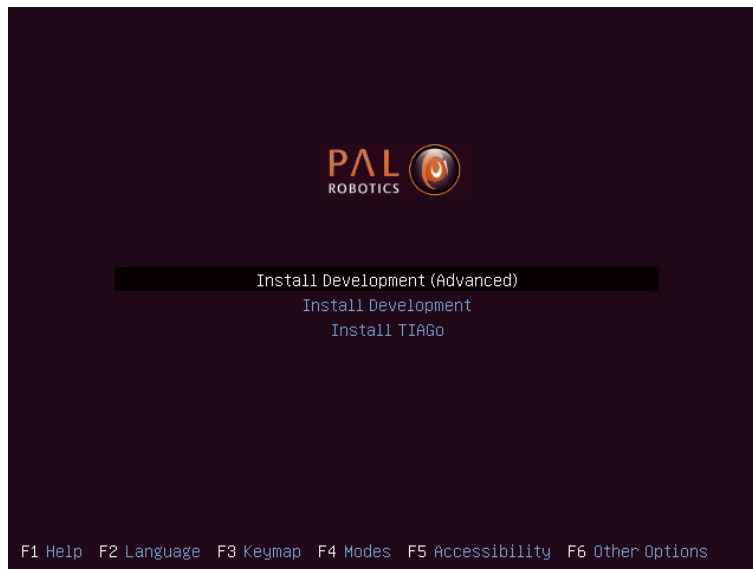

Figure 34: System installation menu
- Once the computer boots from the USB, the menu shown in Figure 34 will appear.